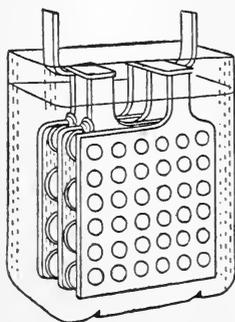

FIG. 10.
**39.** The common STORAGE CELL (see fig. 10) is made up of two lead plates, or two sets of lead plates, corrugated or perforated (GRIDS), each set fastened together so that the plates of one set fit in between those of the other, but do not touch them. They are immersed in dilute sulphuric acid. Such a cell does not generate any electric current of its own, it simply delivers the current received and stored. When this cell enters into the circuit of an electric current, there is at once a very lively chemical action. The plates through which the current enters the cell, (anode) receive a coating of lead oxide, (peroxide of lead), while the surface of the other set of plates (cathode) turns gray and spongy. As soon as the anode plates are completely covered with the red peroxide of lead, the cell is *charged* to its capacity, and it must be taken out of the circuit of the battery or dynamo, or the plates may bend, which would spoil the cell.